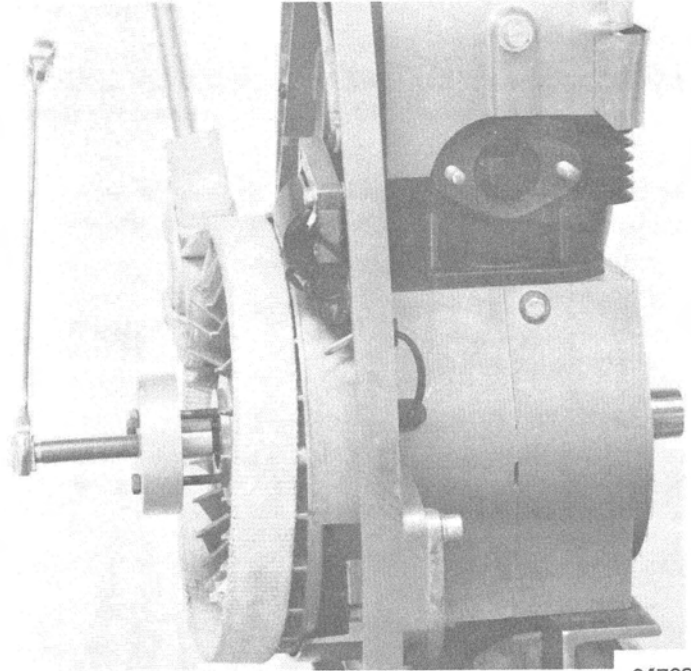

Figure 1. Flywheel Removal
5. Hold flywheel/fan with belt wrench, tighten puller and remove flywheel. (Figure 1)